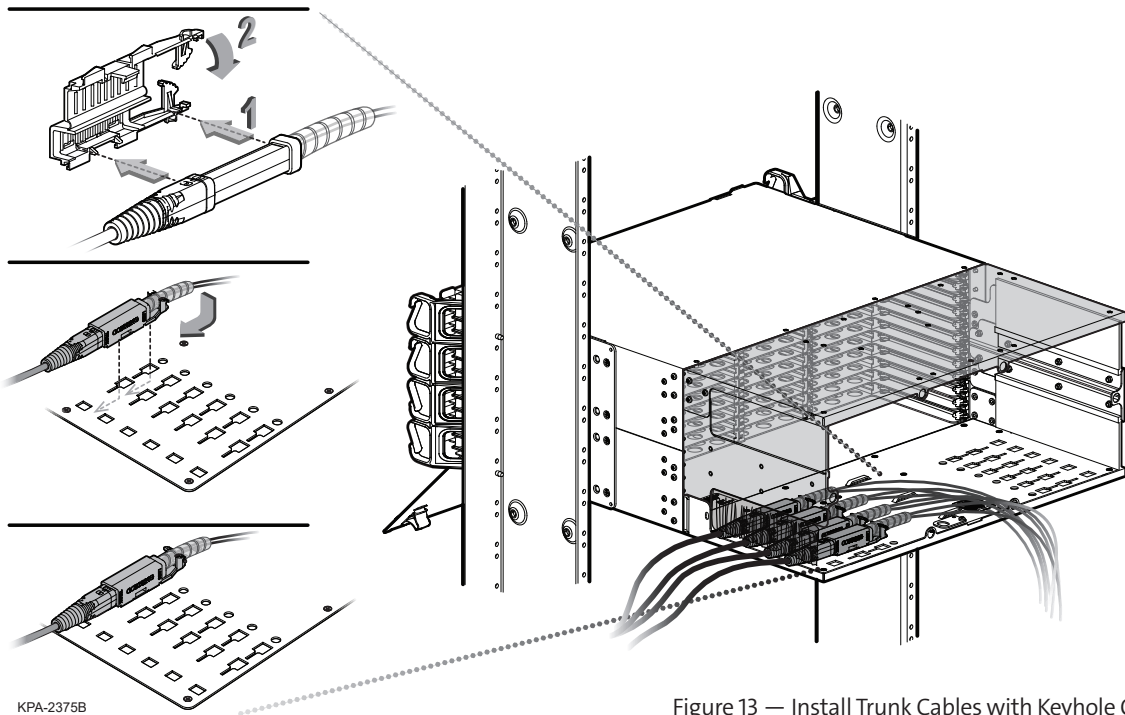

Figure 13 — Install Trunk Cables with Keyhole Cradle
**Step 3:** Insert furcation plug into cradle as seen in Figure 12 or Figure 13 and mount cradle onto CDF bracket (Figure 11).
**Step 2:** Open cradle provided inside the reel and press each trunk cable furcation plug into cradle (Figure 12 - double-stack cradle or Figure 13 - single-stack cradle).